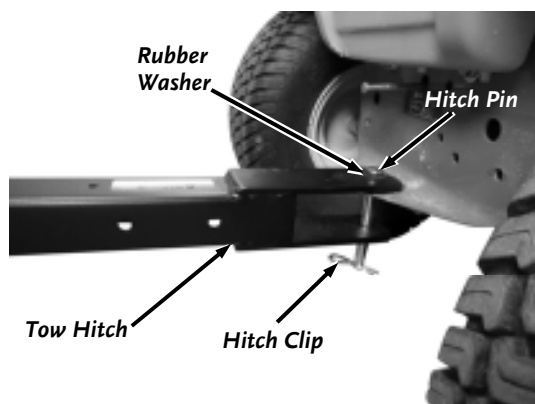

Figure 54
1. Position the back Hitch Plate of your Mower near the Hitch of the PILOT™ LEAF and LAWN VACUUM on level ground (**Figure 54**).